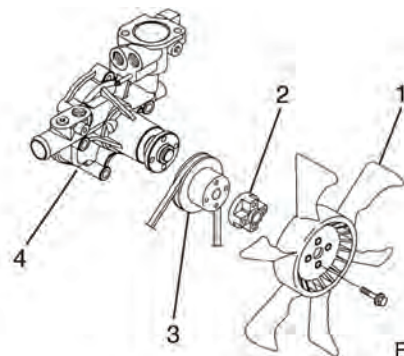

Figure 308
6. Remove the engine coolant fan guard (if equipped), engine coolant fan (1, Figure 308), spacer (2, Figure 308) and engine coolant pump V-pulley (3, Figure 308).
8. Remove the engine coolant pump (4, Figure 308). Discard the gasket.